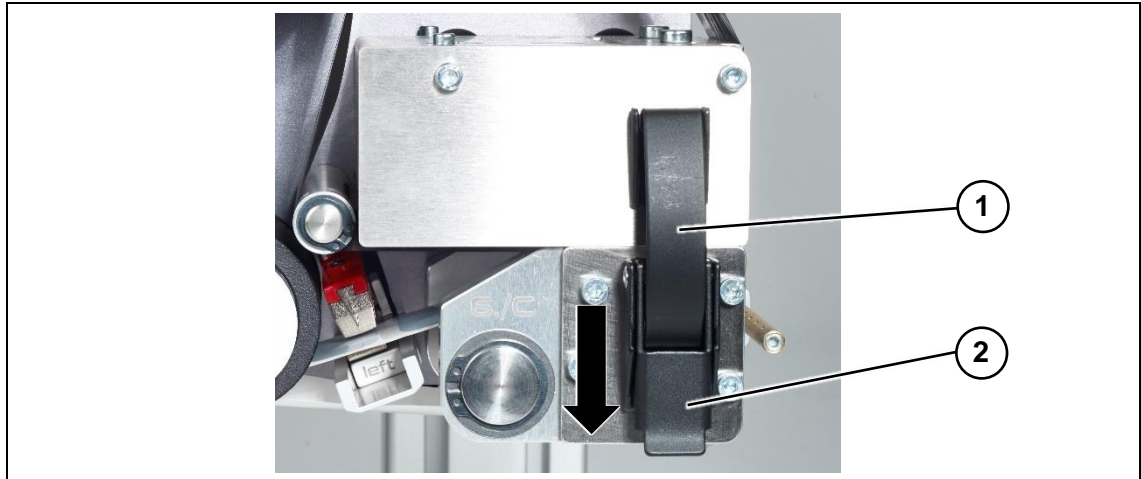

Figure 31 Opening the printhead
- 3 Briefly release the pressure on the printhead before a print test by opening and closing it again (see Figure 31).
- 3 Close the printhead using the clamping lock (Figure 31, pos. 1).